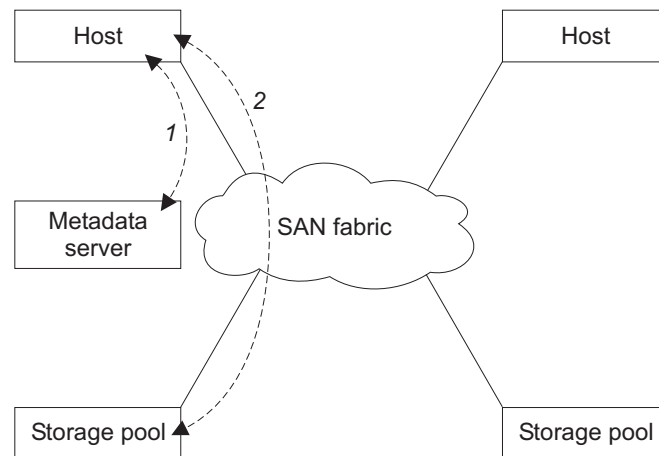

Figure 4. Asymmetrical virtualization
- The metadata server cannot run advanced functions such as caching or copy services because it only knows about the metadata and not about the data itself. See Figure 4